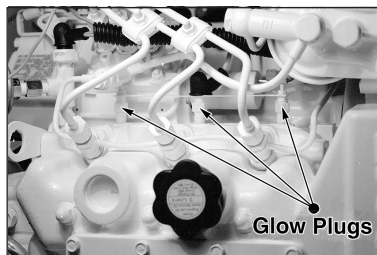

Figure 18: Glow plugs.
- b. Screw in injector and tighten to 43 or 50 ft/lbs (6 to 7 kgm) (Figure 18).